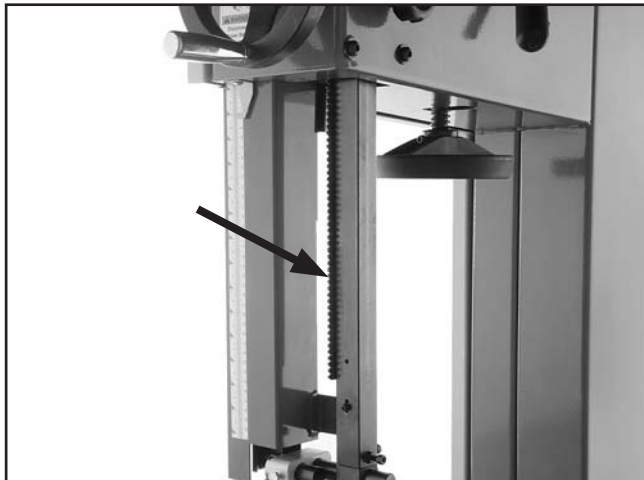

Figure 67. Example of rack lubrication location.
3. Using a rag and mineral spirits, wipe off any existing grease and sawdust buildup on the rack (see **Figure 67**).